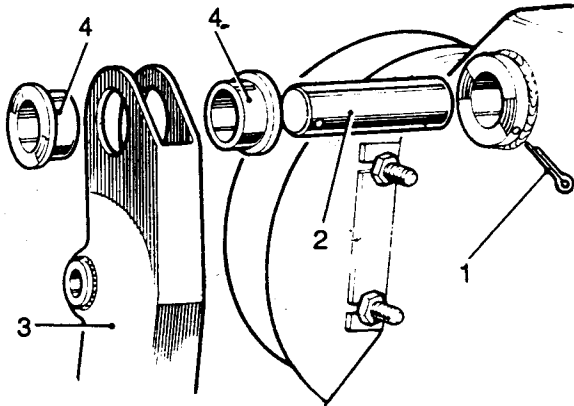

Fig K1.12
- (1) Refer to Fig K1.12. If removed, fit the bushes (4) to the brake pedal. New bushes must be reamed to  $15,875 \text{ mm} \pm 0,025 \text{ mm}$ .
- (2) Refit the brake pedal (3) using a general purpose grease to lubricate moving parts.
- (3) Replace the pedal shaft (2).
- (4) Fit a new split pin (1) into the pedal shaft and spread the ends.